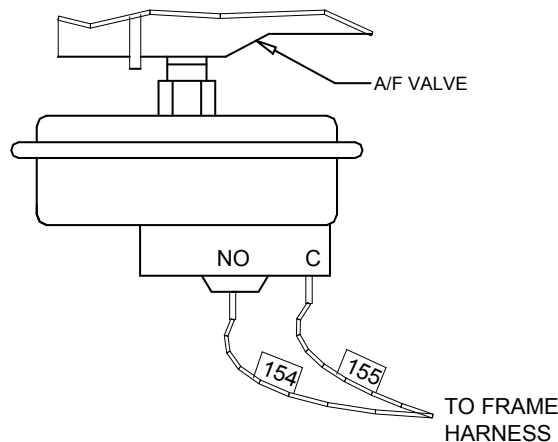

Figure 3-5.
4. Next, the blower proof switch (Figure 3-5) closes. The display will show *Purging* and indicate the elapsed time of the purge cycle in seconds. The normal (default) time for the purge cycle is 7 seconds.